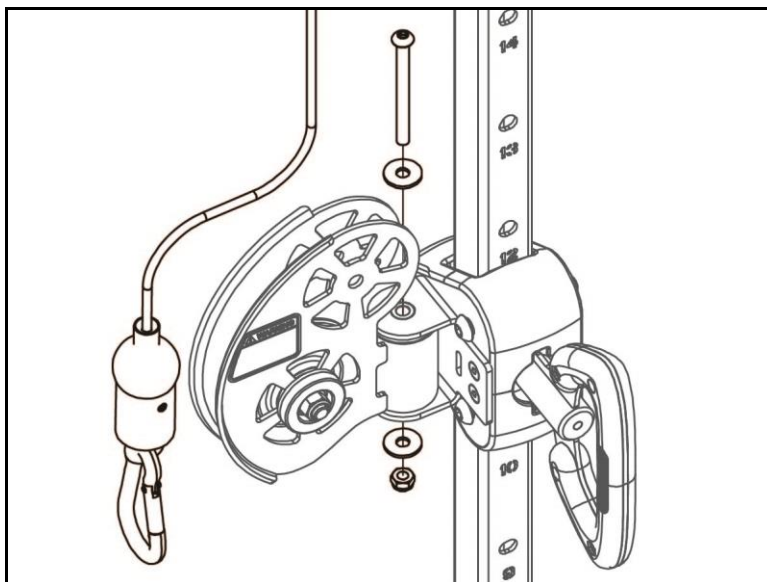

Fig. 2
2. Move the cable out of the bracket and remove the center securing button head screw along with its corresponding hardware with a 5mm hex key and a 13mm open wrench (Fig. 2).